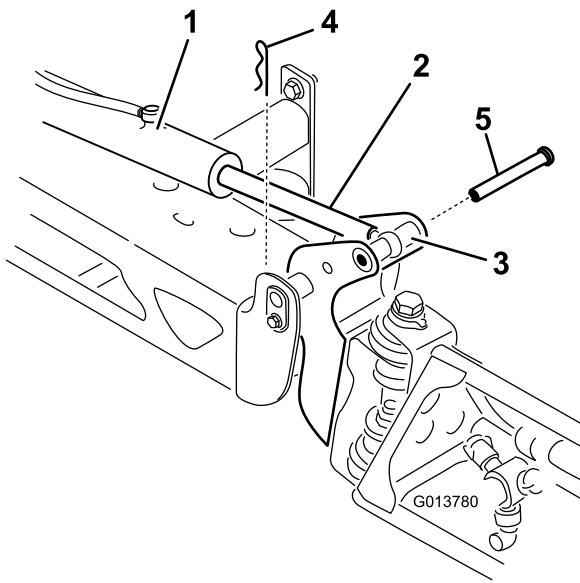

Figure 58
2. Remove the cotter pin from the pivot pin (Figure 58).
3. Lift up on the boom and remove the pin (Figure 58), and slowly lower the boom to the ground.
9. While holding the boom, insert the pin through both boom pivot and actuator rod (Figure 58).